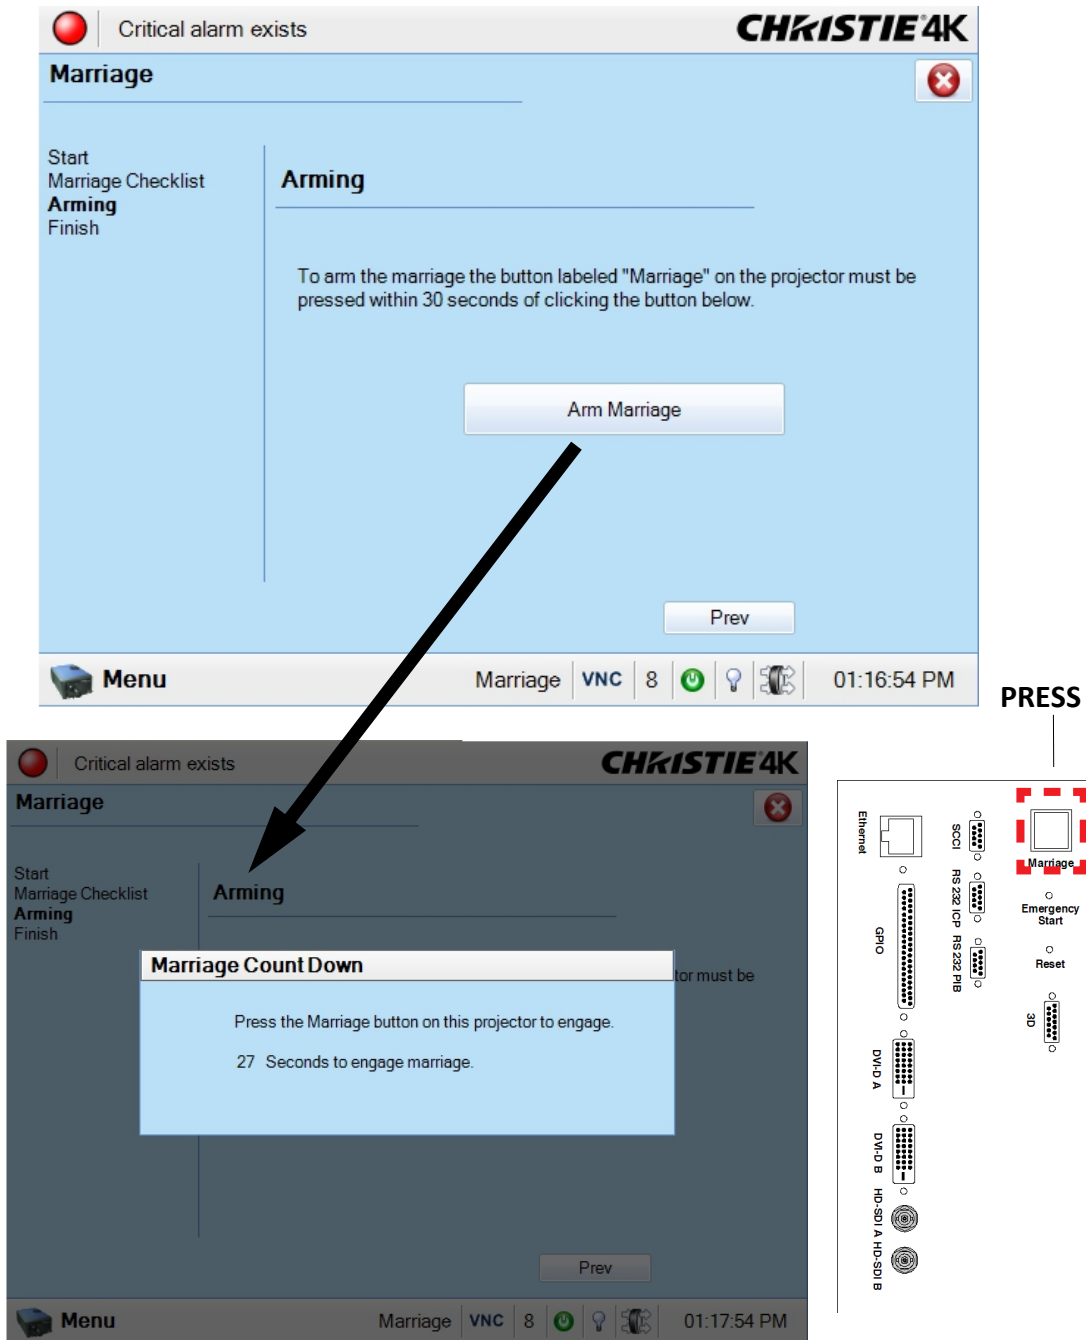

Figure 3-59 Press the Marriage Button on the PI Board After Clicking the Arm Marriage Button
- In the **Arming** window, click the **Arm Marriage** button. (Figure 3-59). A 30 second count-down timer begins. The LED in the **Marriage** button on the PI Board will flash green during this count-down. You **MUST** press the **Marriage** button on the PI Board within this 30 second window in order for the marriage to take effect. When the **Marriage** button is pressed, the LED button will change to a solid green to indicate a successful marriage.